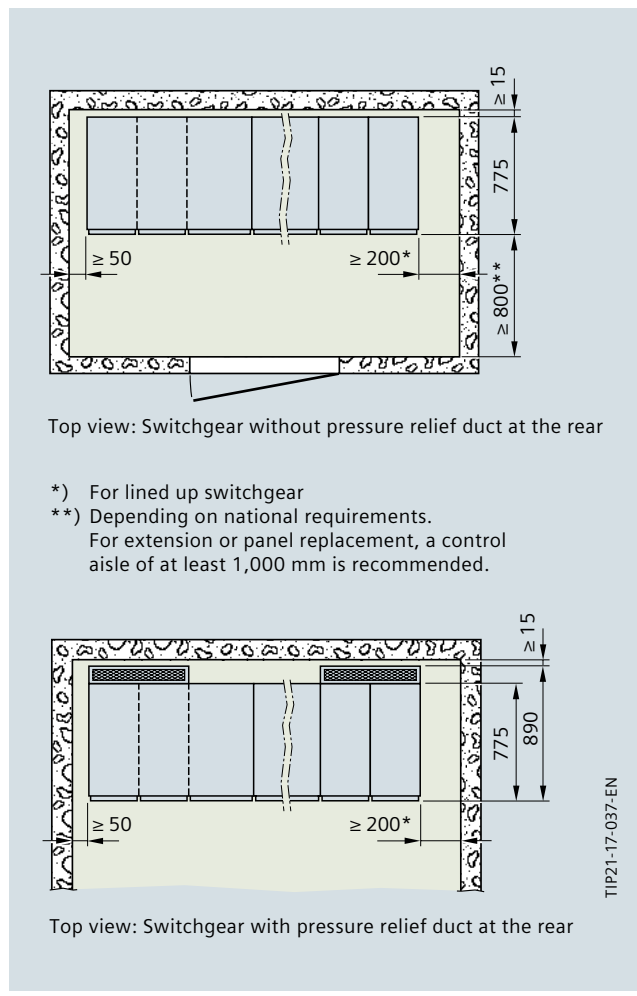

Fig. 2/8: Wall distances for 8DJH up to 24 kV and 8DJH Compact (dimensions in mm)
IAC A FLR 21 kA, 1 s, minimum room heights according to Fig. 2/9), with pressure absorber system.
For 8DJH Compact, the following types of pressure relief (Fig. 2/10) can be selected:
For 8DJH switchgear with outdoor enclosure (option), the direction of the pressure relief (Fig. 2/9 and Fig. 2/10) can be selected as follows:
- Downwards into the cable basement (internal arc classification up to IAC A FL or FLR 21 kA, 1 s, minimum cross-section of the cable basement according to (Fig. 2/9 and Fig. 2/10)
In addition to the information in Tab. 2/2 and Tab. 2/3, the cable and instrument transformer connections as well as their connection height are shown in the panel views (Fig. 2/11). For the panel blocks RR, RRR, RT, RRT, and RTR, a switchgear height of 1,040 mm is possible (but without the low-voltage compartment option). The height of the base cover E is then 32 mm, and the cable connection D is located at a height of 500 mm for ring-main panels and 62 mm for transformer panels. Panel views and dimensioning for 8DJH Compact panel blocks are shown in Fig. 2/12.
The dimensions for floor openings and fixing points of the switchgear are given in Fig. 2/13. Only standard designs are shown. For panel versions with double cable connection and deep cable compartment cover, as well as for special versions, please order the dimension drawings via your Siemens partner (www.siemens.com/tip-cs/contact).